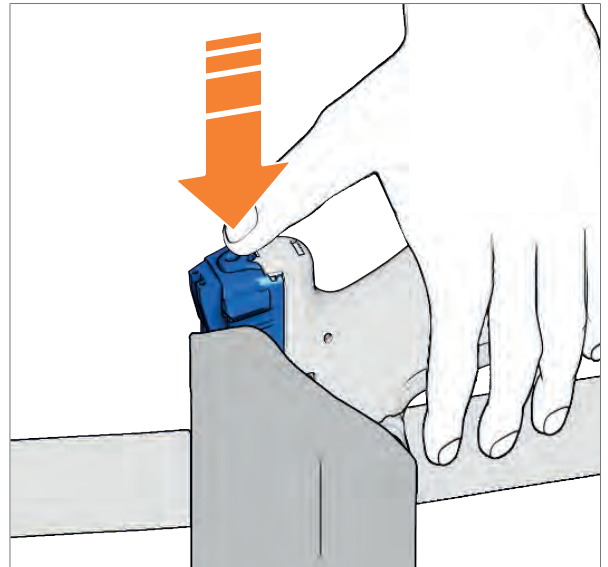

Fig. 50: Push slide forwards
Depending on the holster, the slide may be pushed rearwards when you insert the weapon into the holster. When inserting the pistol, push the slide forwards with your thumb in order to prevent the slide from opening unintentionally (*Fig. 50*).
1. Insert weapon into holster and push the slide forwards with your thumb while doing so (*Fig. 50*).